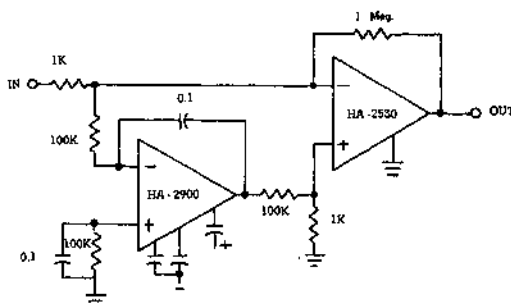

Figure 14
Figure 14 illustrates an excellent combination of characteristics for use wherever inverting amplifier applications are required. Features of the composite amplifier include: slew rate: $300\text{V}/\mu\text{s}$, gain bandwidth product: 10-500 MHz, D.C. gain: 10^{13} , offset voltage drift: $0.3\mu\text{V}/^\circ\text{C}$, bias current drift: $50\text{pA}/^\circ\text{C}$, input noise (0.1 KHz): $5\mu\text{V}$ peak to peak.
- Obtain the value of $4KTR_g$ from Figure 14, and enter it on line (c) of the table. This is constant for all frequencies. The $4KTR_g$ value must be adjusted for temperatures other than normal room temperature.